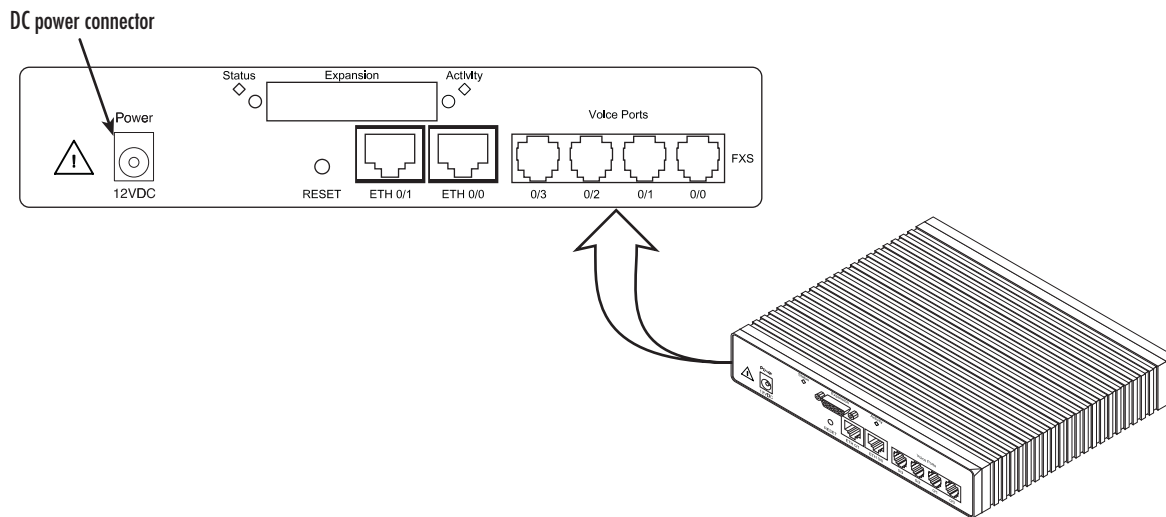

Figure 21. Power connector location on rear panel
1. If your unit is equipped with an internal power supply, go to step 2. Otherwise, insert the barrel type connector end of the AC power cord into the external power supply connector (see figure 21).
2. Insert the female end of the power cord into the internal power supply connector (see figure 21).